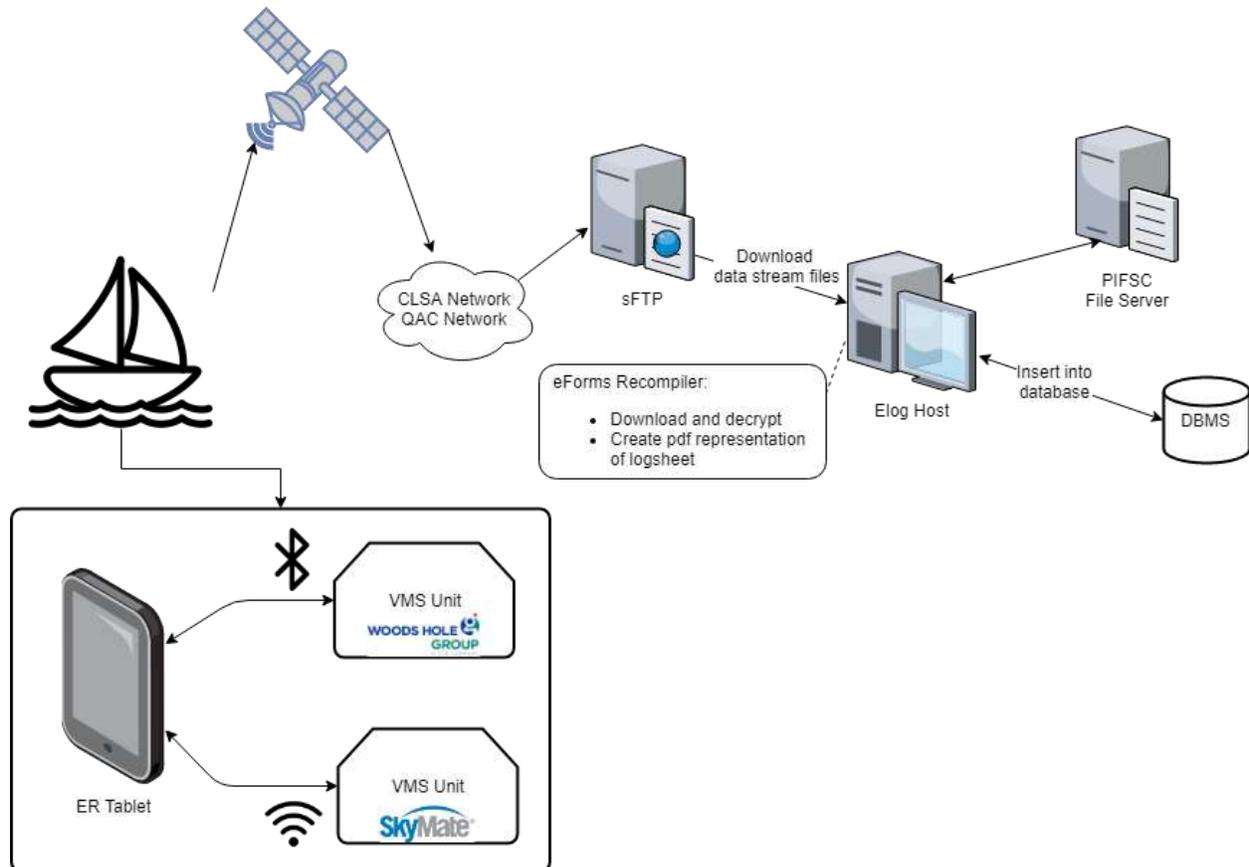

Figure 1: General Electronic Reporting process flow
The current ER process is illustrated in Figure 1. Software on an Android tablet interfaces with the vessel monitoring system (VMS). There are currently two VMS companies that have units installed on longline vessels in Hawaii and American Samoa. Woods Hole Group (WHG, formerly CLS America) has models LEO/THORIUM and TRITON (two different model types), which allow the tablet to interact with the unit via Bluetooth (BT) technology. Skymate has models M1500 and M1600, which allows the tablet to interact with the unit via Wi-Fi. 12 vessels have the discontinued M1500 unit installed. Skymate data transmission is currently being tested.